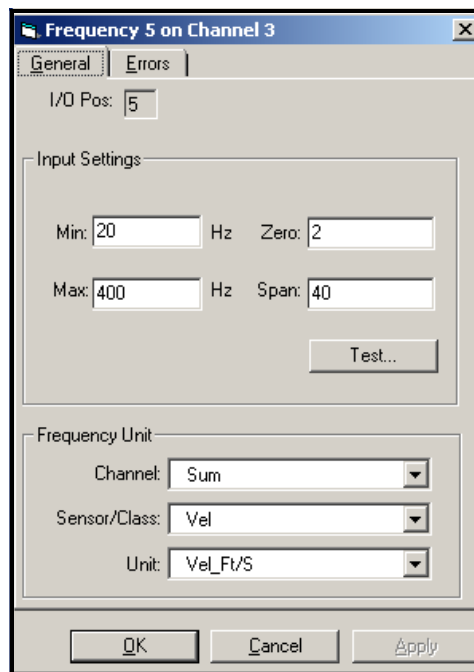

Figure 3-12: Frequency Properties
6. In the Frequency Unit section, select the desired output for Channel, Sensor/Class and Unit from drop-down menus, and click on Apply. The window should look similar to Figure 3-12 below.